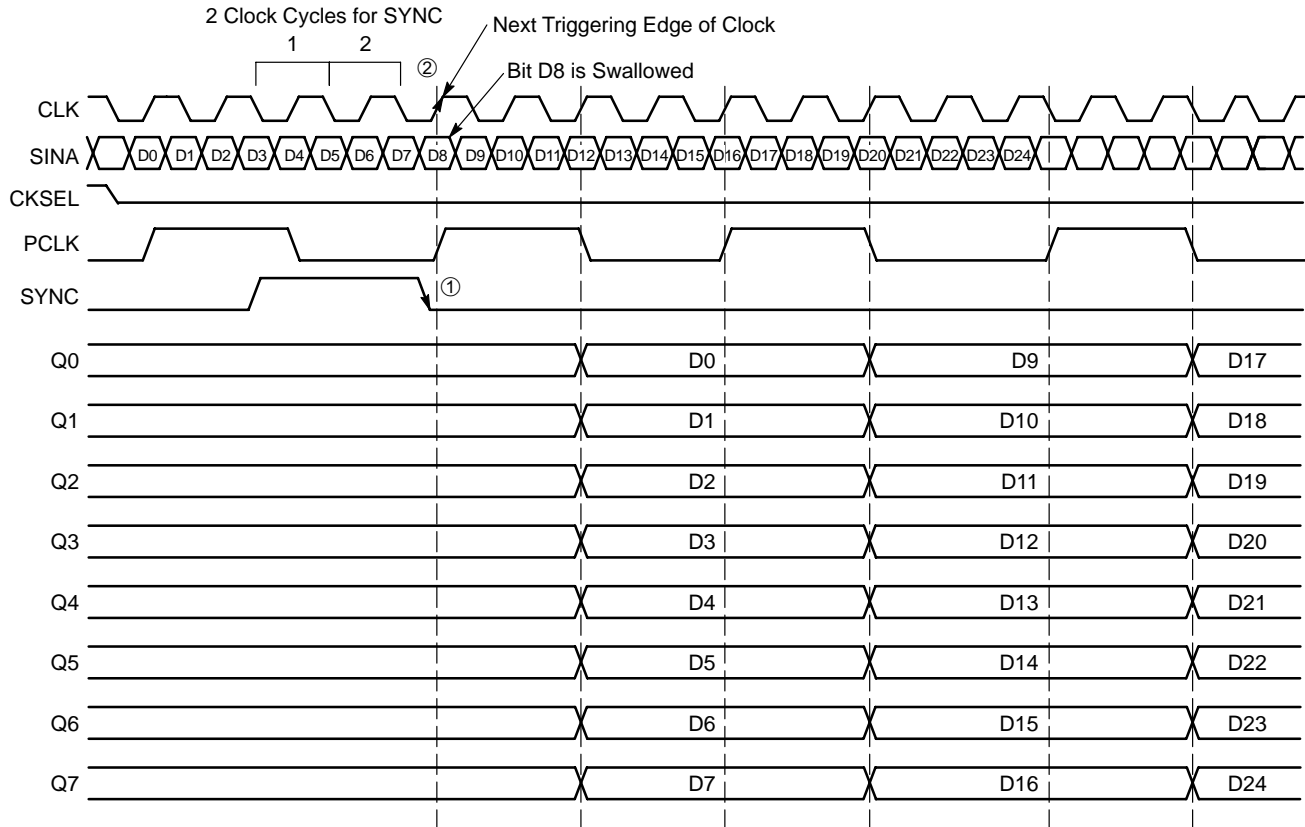

Figure 9. Timing Diagram A. 1:8 Serial to Parallel Conversion with SYNC Pulse at CKSEL LOW
To allow the user to synchronize the output byte data correctly, the start bit for conversion can be moved using the SYNC input pin (pin 2). Asynchronously asserting the SYNC pin will force the internal clock to swallow a clock pulse, effectively shifting a bit from the  $Q_n$  to the  $Q_{n-1}$  output as shown in Figure 9 and Figure 10. For CKSEL LOW, a single pulse applied asynchronously for two consecutive
clock cycles shifts the start bit for conversion from  $Q_n$  to  $Q_{n-1}$ . The bit is swallowed following the two clock cycle pulse width of SYNC① on the next triggering edge of clock② (either on the rising or the falling edge of the clock). Each additional shift requires an additional pulse to be applied to the SYNC pin. (See Figure 9)